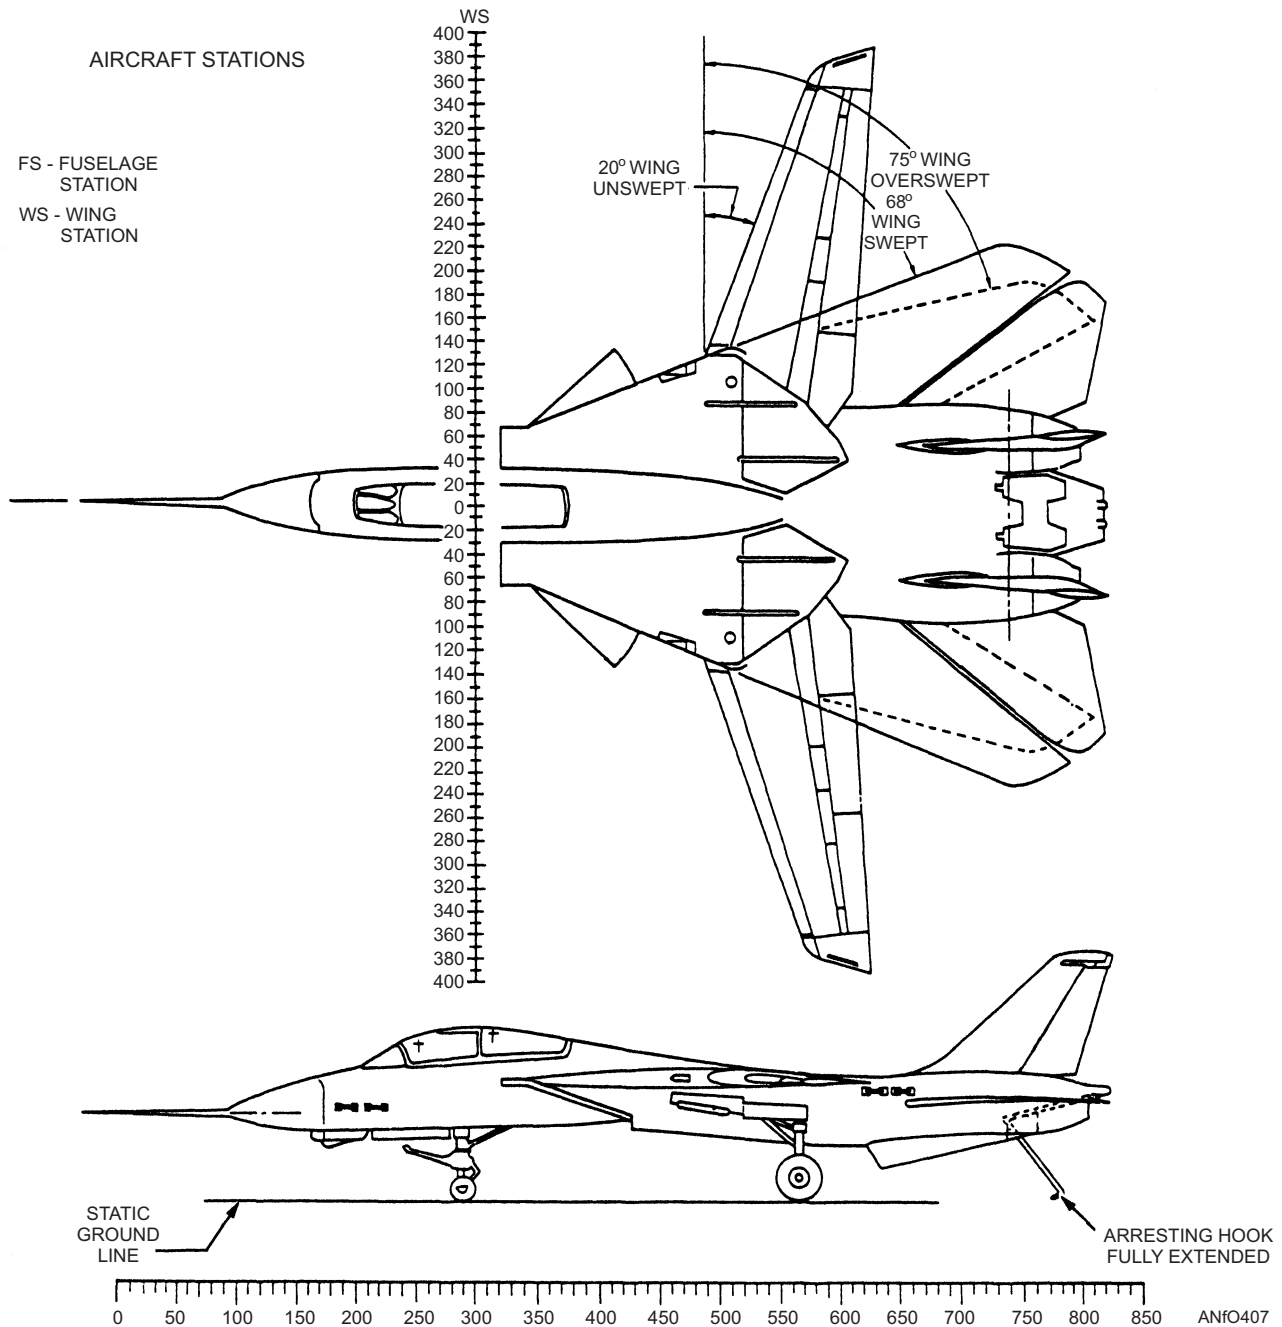

Figure 4-7.—Fuselage station diagram of an F-14 aircraft.
Points on the fuselage are located by station numbers. Station 0 is usually located at or near the nose of the aircraft. The other stations are located at measured distances (in inches) aft of station 0. A typical station diagram is shown in figure 4-7. On this particular aircraft, fuselage station (FS) 0 is located 93.0 inches forward of the nose.
Various points on the wing are located by wing station numbers (fig. 4-7). Wing station (WS) 0 is located at the centerline of the fuselage, and all wing stations are measured (right or left) from this point (in inches).